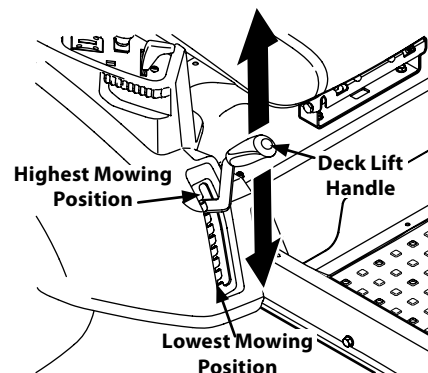

Figure 4-8
- a. Using the deck lift handle, raise the deck to the position that provides the most horizontal run of the belt between the deck idler pulleys and the PTO pulley on the bottom of the engine. See Figure 4-8.
- d. Lower the deck into the lowest mowing position using the deck lift handle. See Figure 4-8.
- e. Lower the deck into the lowest mowing position using the deck lift handle. See Figure 4-8.
8. Place the deck lift handle into the highest mowing position and slide the deck out from beneath the tractor. See Figure 4-8.
1. Place the deck lift handle in the highest mowing position. See Figure 4-8.